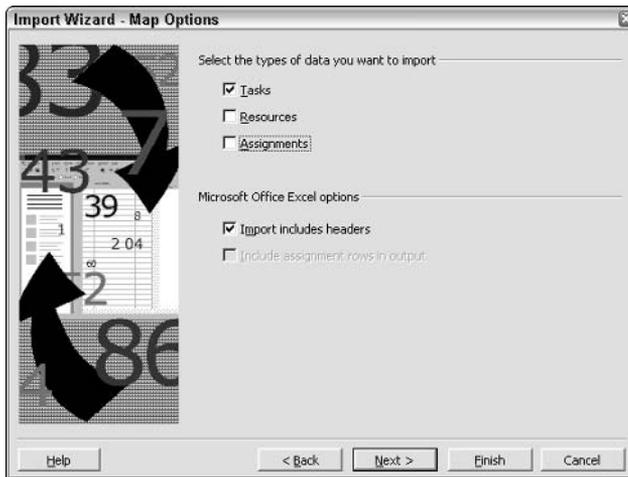

Figure 26-24: Select the types of data that you want to import.
7. Click Next. In the Map Options dialog box, select the types of data that you want to import, as shown in Figure 26-24.